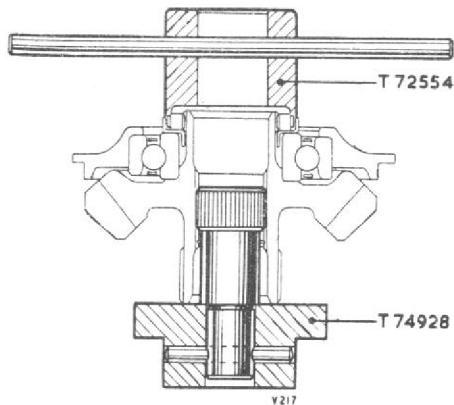

Fig. 5. Tightening the nut on the upper vertical gear shaft
- (9) Place the gear assembly over the splined mandrel of vice block T74928, assemble a new cup-locking washer (Part No. N2865) and the ring nut to the shaft, using serrated spanner T72554 tighten the nut (fig. 5).
- (10) Lock the nut by lightly tapping the cup-washer into the serrations of the nut at two opposite positions.
- (11) Fit a new circlip (Part No. N4221) into the bore of the lower end of the upper vertical drive gear.
- (12) Tie the adjusting washer to the housing.